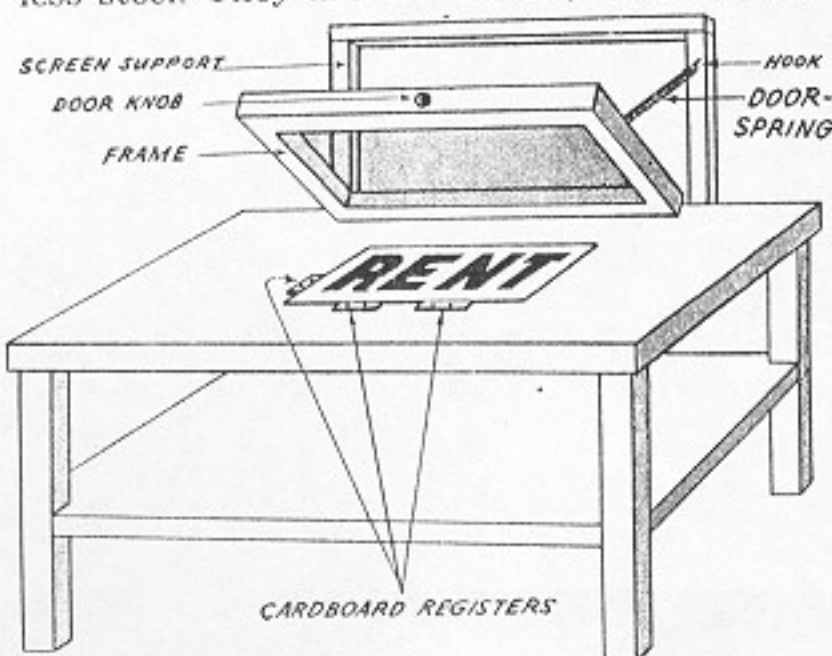

Fig. 43. Use of Door Spring for Frame Support
2. When a long run is to be made, an arrangement such as shown in Fig. 43 may be practical. A supporting frame is attached to the edge of the table, the screen frame is hinged directly to the table and held up away from the printing surface by means of the doorspring attached at the right side. This type